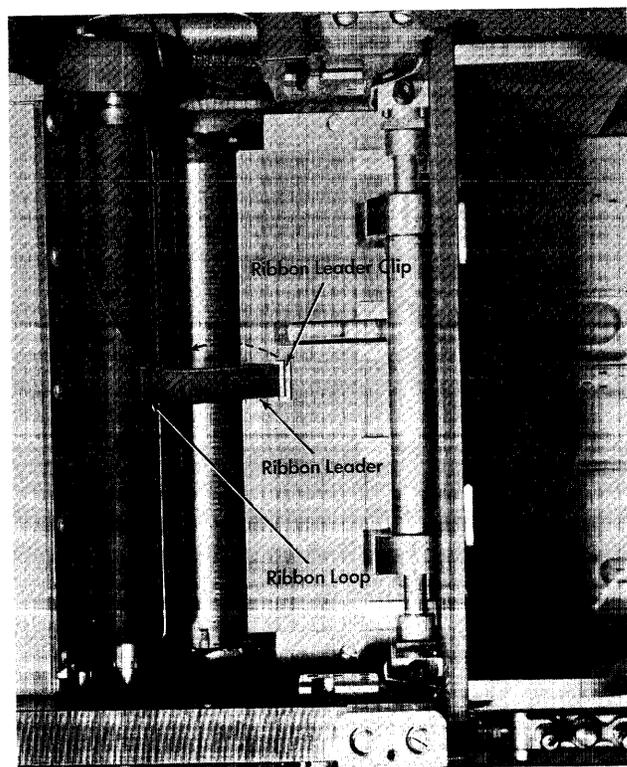

Figure 147. Ribbon Inserted
6. Turn upper ratchet wheel clockwise until the leader clip is in view from the top (Figure 147).